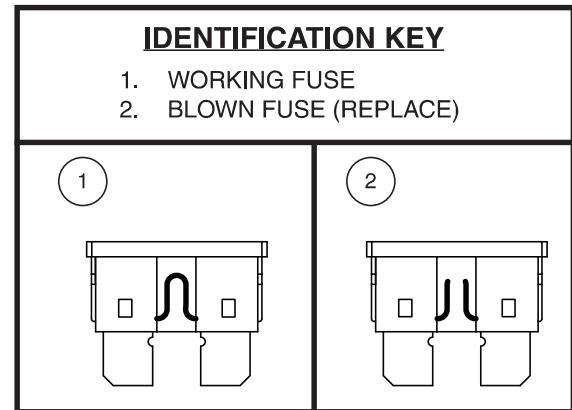

Figure 31. Fuse Replacement
2. Examine the fuse to be sure it is blown. **See figure 31.**